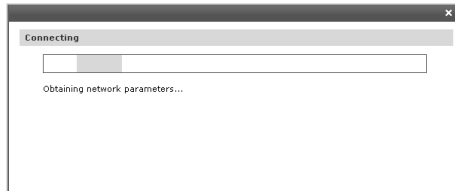

Figure 5-10 WAN Connection Type - Dynamic IP
2) If your ISP assigns the IP address automatically, please choose the Dynamic IP connection type to obtain the parameters for WAN port automatically. The process for obtain the parameter may take a few minutes as Figure 5-10 shows. If you close the screen during the process, the configuration will still be continued in the background.